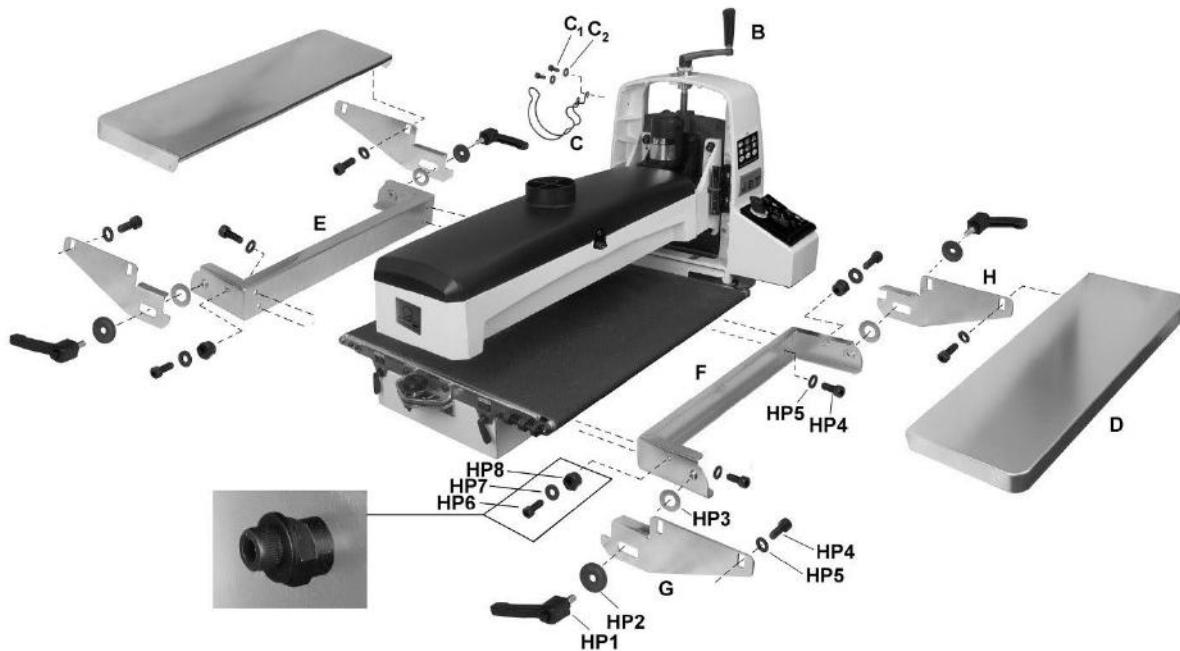

Figure 6-3: Assembly of Sander and OPTIONAL Infeed/Outfeed Tables
1. Install height adjustment handle (B, Fig 6-3) onto spindle and tighten set screw.
3. Install hose hanger (C) with screws and washers (C₁/C₂).
1. Install infeed and outfeed brackets (F, E, Figure 6-3) to the threaded holes in sander base with socket head screws and flat washers (HP4/5). Make sure left and right brackets are oriented as shown. The brackets should be flush against the base.